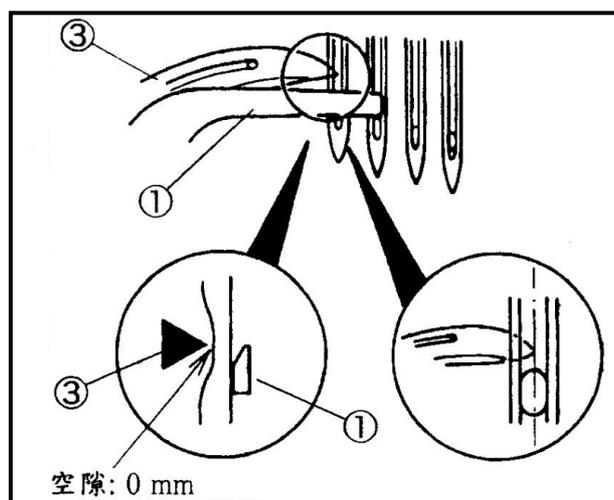

Fig.56
當下勾針左移到右時，檢查下勾針③有無碰到針的後面，看針有無左右移動。(Fig.56,57)
Check the looper tip touches the back of the needle and the does not swing to the right when the looper③ moves from the left to the right while rotating the handwheel. (Fig.56,57)